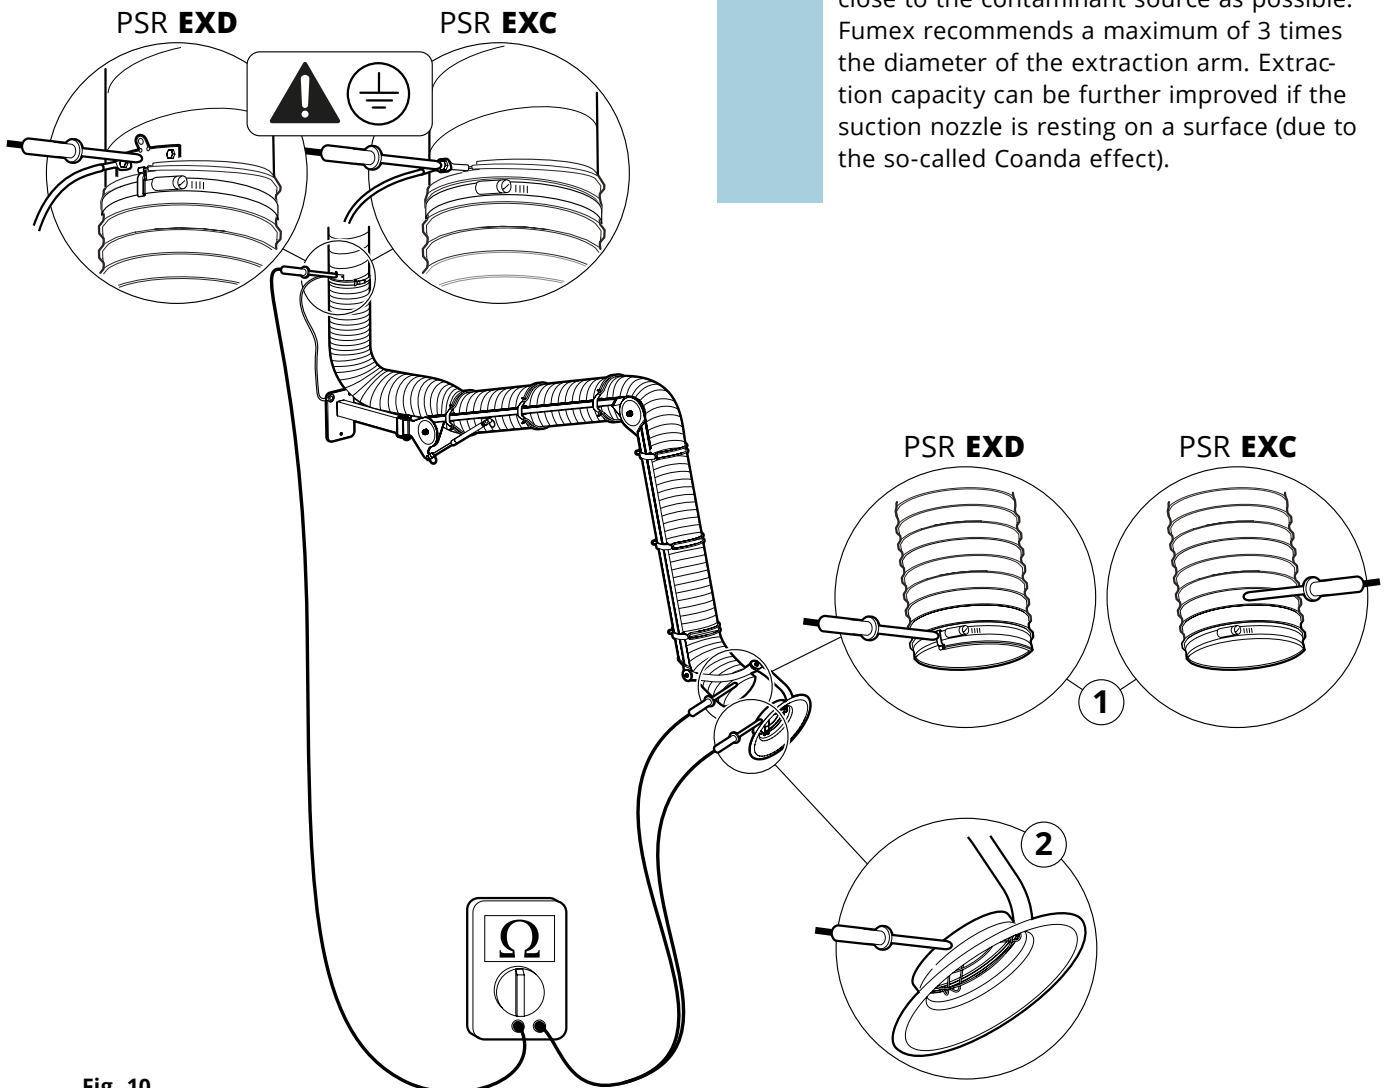

Fig. 10
3. Check the resistance of the extraction arm with a calibrated ohmmeter. See 1, **Fig. 10**. The resistance between the measuring points must be less than 1 MΩ.
4. Check the earth resistance with a calibrated ohmmeter. See 2, **Fig. 10**. The resistance between the measuring points (earth plane/product) must be less than 1 MΩ.